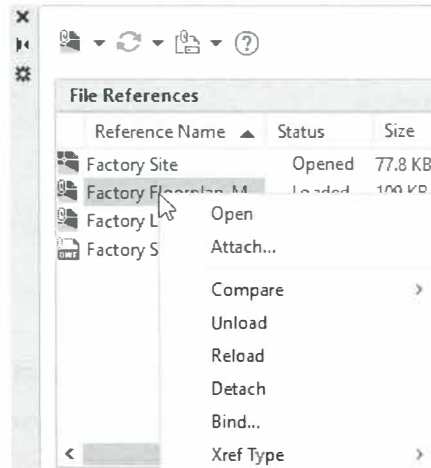

Figure 11–12
- You can **Open**, **Unload**, **Reload**, and **Detach** individual references, as shown in Figure 11–12.